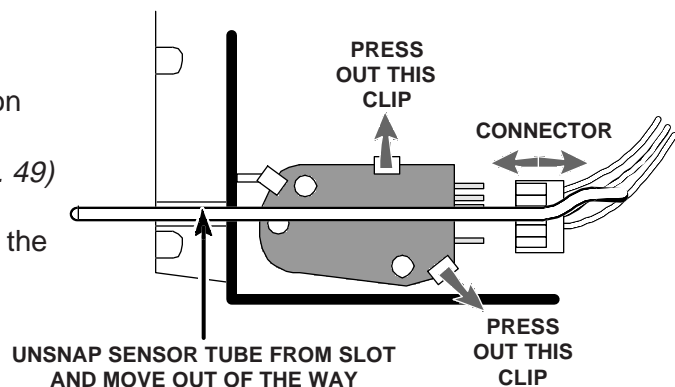

Fig. 49
2. Press out on the two indicated clips (Fig. 49) and remove the defrost timer.